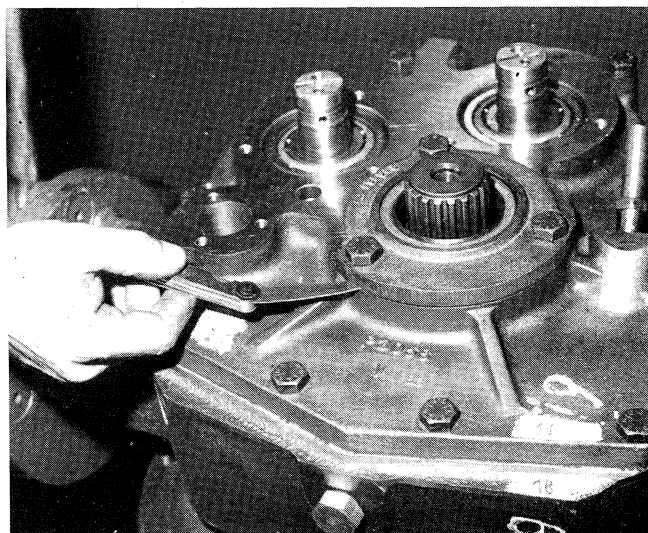

Figure 9-1. Measuring shim space between output bearing retainer and rear cover.
2. Apply forward pressure on the output shaft (17) and rotate the shaft several revolutions in each directions.
3. Tighten capscrews (22) finger tight again and then measure with a taper gauge the space between bearing retainer (21) and rear cover (Figure 12-1, 11). See Figure 9-1. Make up a shim pack (Figure 12-2, 20) equal to the measured space plus 0.005 inch.